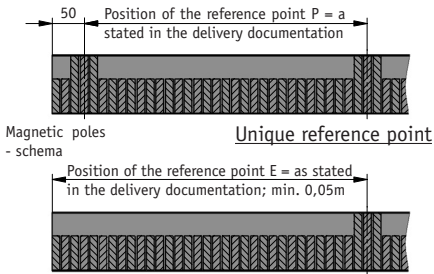

Fig. 7: Definition of the counting direction with magnetic strip and assemblage sensor/magnetic ring, gap measure, tolerances
- When mounting the magnetic sensor, ensure that the gap between strip & sensor and the max. admissible deviation are maintained over the total measuring length (see fig. 7)!
- Tolerance for the gap between magnetic sensor and magnetic strip not observed over the **total** travel distance. Sensor touches strip (see fig. 7).